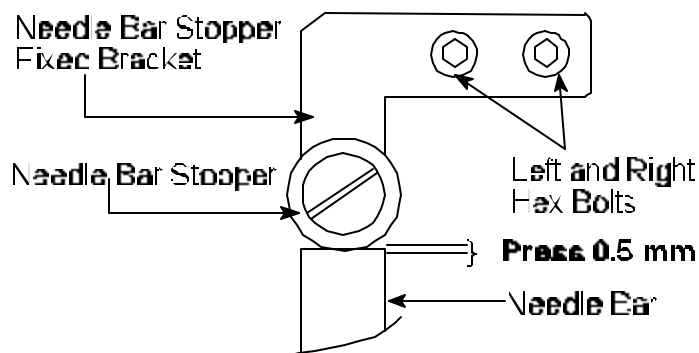

Figure 12
24. Press down on *clear* stopper approximately 0.5 mm to top of Needle Bar Assembly then secure hex bolts. See Figure 12.